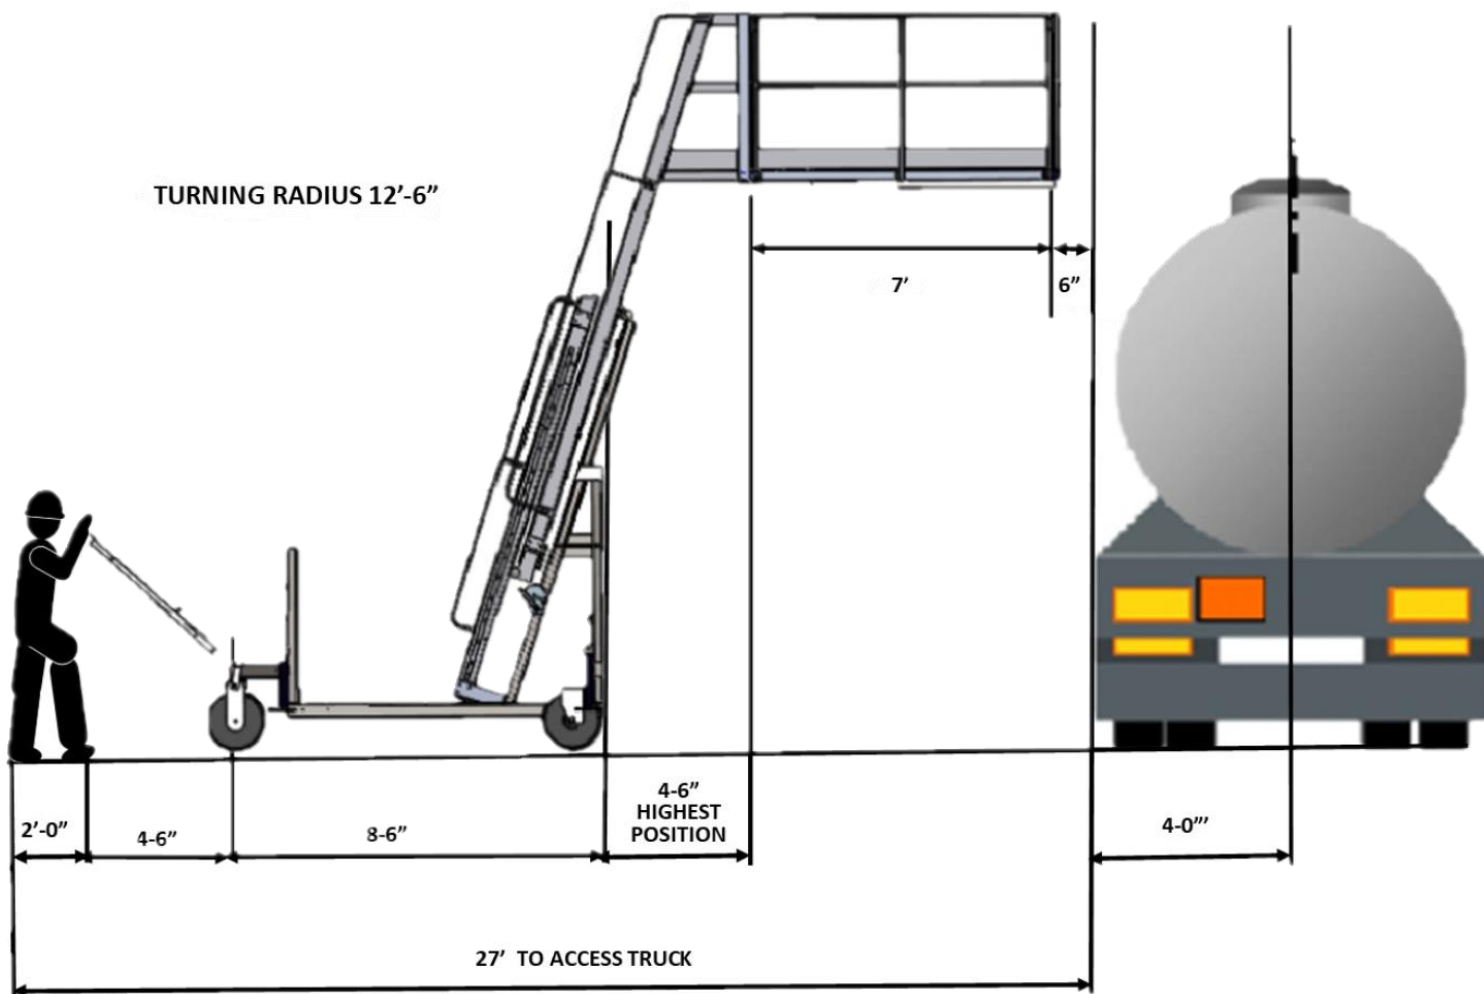

FIGURE 2-2 TC10 CART OPERATIONAL DIMENSIONS
- 11) Cart turning radius when extended is 12'-6"/3.81m measured from the rear wheels. **(SEE FIGURE 2-2)**